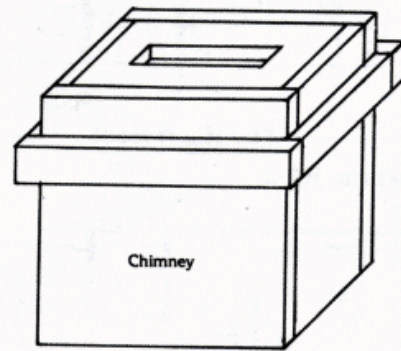

FIGURE 44
1. Locate chimney parts (Sheet HR-8). Assemble as in Figure 44.